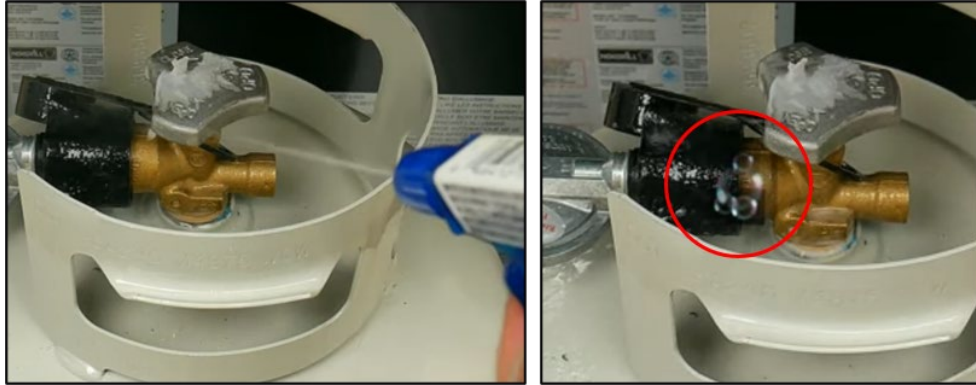

Figure 21 Leak Test Spray and Bubbles
3. Spray the soapy water solution on all joints of the gas delivery system (Figure 21)